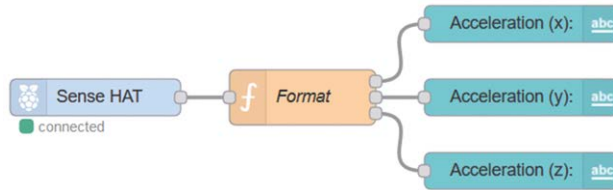
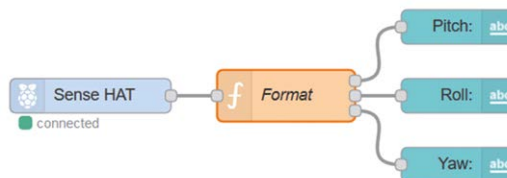
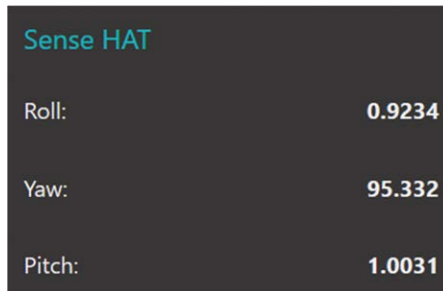

Figure 12.8 Flow program of the project
Figure 12.12 Flow program of the project
Figure 12.13 Displaying the pitch, roll, and yaw
Node-RED flow program: Figure 12.8 shows the flow program which consists of 5 nodes: a **Sense HAT** node to get the motion variables, a **function** node with 3 outputs to extract the acceleration in 3 dimensions, and 3 Dashboard **text** nodes to display the acceleration in each direction.
Node-RED flow program: The flow program is exactly the same as Figure 12.8, but the contents of **function** node and the 3 **text** nodes are modified. Figure 12.12 shows the flow program.
- Change the **Labels** of the **text** nodes as shown in Figure 12.12. Figure 12.13 shows the pitch, roll, and yaw displayed in the Dashboard.